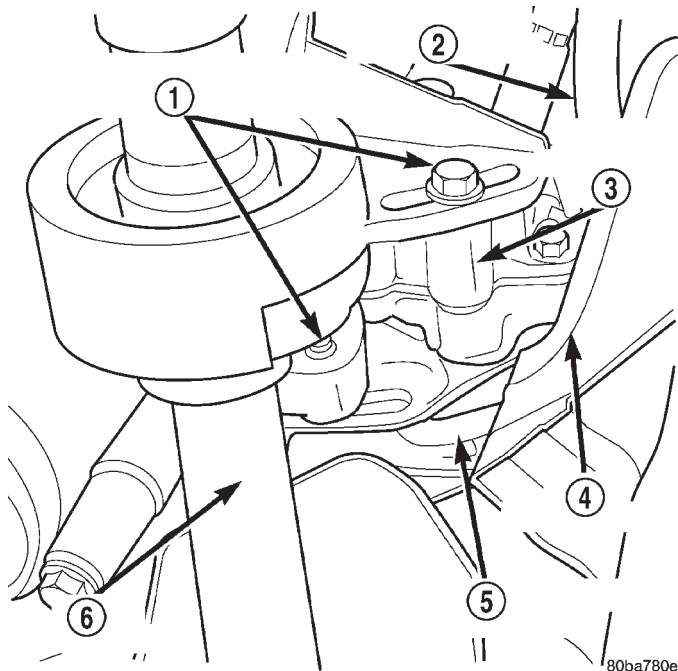

Fig. 1 Power Steering Pump — Position & Orientation
(8) Remove the pump fluid pressure line from the pump (Fig. 1).
(9) If equipped, remove the A. B. S. heatshield (Fig. 1).
(10) Remove the pump fluid supply hose from the pump (Fig. 1).
(11) Remove the (2) bolts at the adjustment slots on the pump mounting bracket (Fig. 1). Remove the pump assembly from the vehicle.
(12) Remove the pump pulley so it can be transferred to the new pump.
(13) Remove the pump mounting bracket so it can be transferred to the new pump.